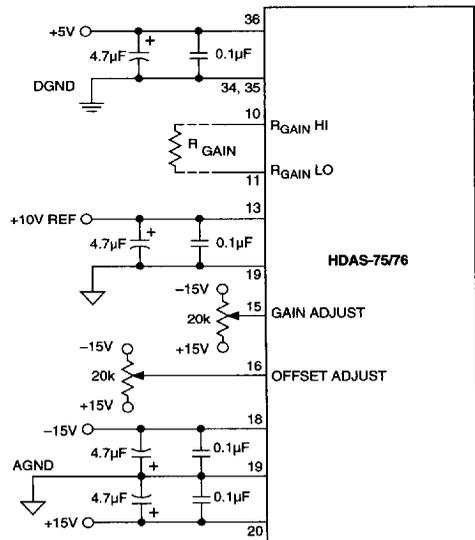

Figure 2. Typical Connection Diagram
1. Connect the converter per Figure 2 and Tables 2 and 3 for the appropriate input range. Apply a pulse of 1 μ s (typical) to the START CONVERT input (pin 40) at a rate of 75kHz. This rate is chosen to reduce flicker if LEDs are used on the outputs for calibration purposes.